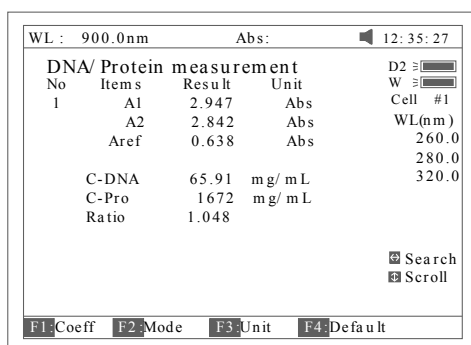

Fig 65
- Pull the sample cuvette into the light path, press **[START]** to test the sample. The test result will be displayed on the screen (Fig 65).